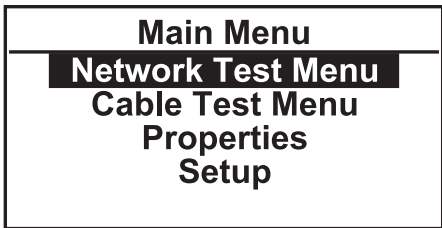

Figure 3-1. The LAN Solution GB Network Tester's main menu.
When you first power on the LAN Solution GB Network Tester, the main menu appears on the LCD as shown in Figure 3-1.
1. Scroll through the LAN Solution GB Network Tester's Main Menu (see Figure 3-1) using the arrow keys until Network Test Menu is highlighted.